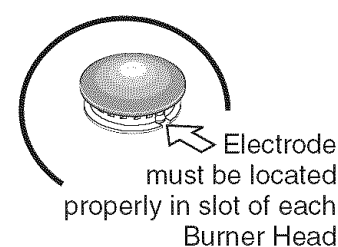

Figure 3
4. To replace Burner Heads & Caps, match the letters located under center of Burner Caps with the letters located inside Burner Head (only 5K, 9.5K and 17.2K burners are marked with letters - See Figure 1). Place all Burner Heads & Caps on the cooktop (See Figure 1) while carefully aligning the Electrodes into slots or holes of the Burner Heads (Figure 3). Note: The Burner Heads should sit flat on Cooktop Burner Skirts.